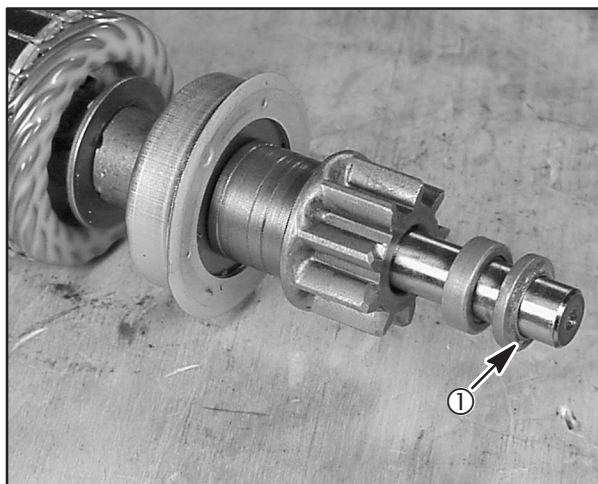

Fig. 41
5. Assemble spacer to armature shaft, **Fig. 41**.